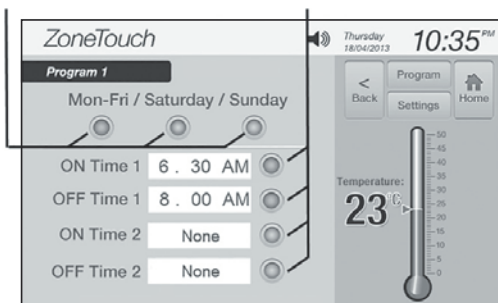

Figure 5
- a) Touch Program buttons (e.g. **Program 1**) on 'programming' screen (Figure 4) to enter the screen (Figure 5) to select scenarios and adjust the event times.